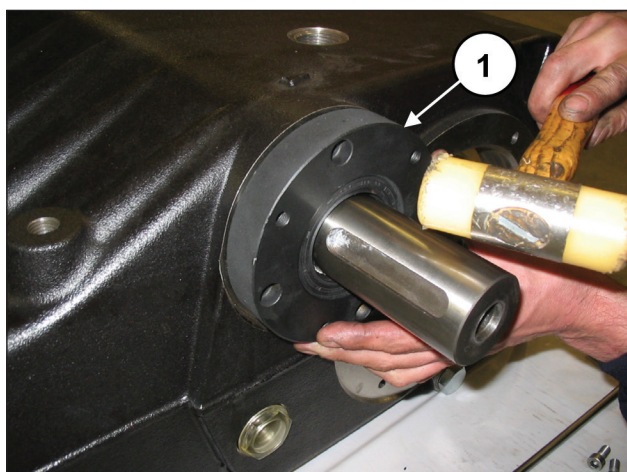
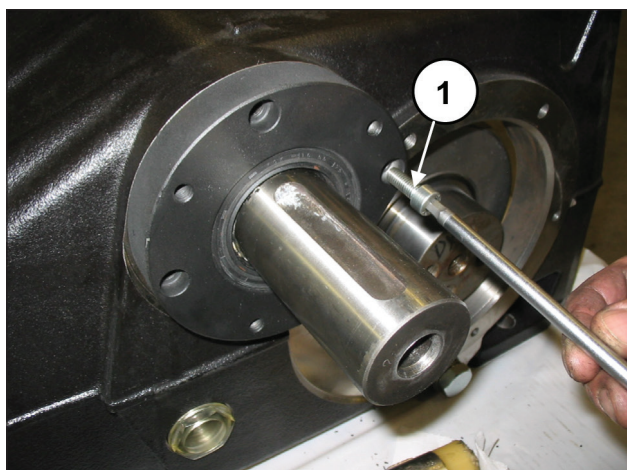

Fig. 68
Fig. 69
Mount one of the PTO bearing covers (left or right) fitted with seal ring on the pump casing using the tool code 27539500 (pos. ①, Fig. 68) and fasten it with 4 M8x30 screws (pos. ①, Fig. 69).
Mount the missing PTO bearing cover on the pump casing (pos. ①, Fig. 68) and fasten it with 4 M8x30 screws (pos. ①, Fig. 69).